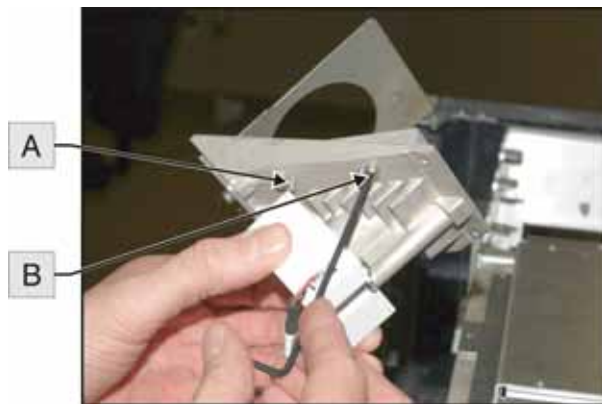

Figure 5-74 Fold Mirror
5. Loosen the 2.5mm locking hex screw and remove the two 2.5mm hex screws securing fold mirror 1 to the bracket (Figure 5-74).